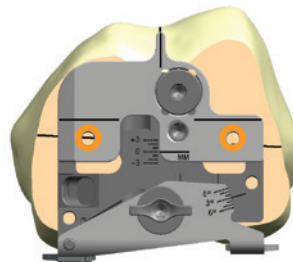

Figure 25
- Once both the A/P and rotational measures are desirable relative to the anatomic landmarks, drill about a 1 inch (25mm) deep hole through each of the two holes in the drill guide (Figure 25).